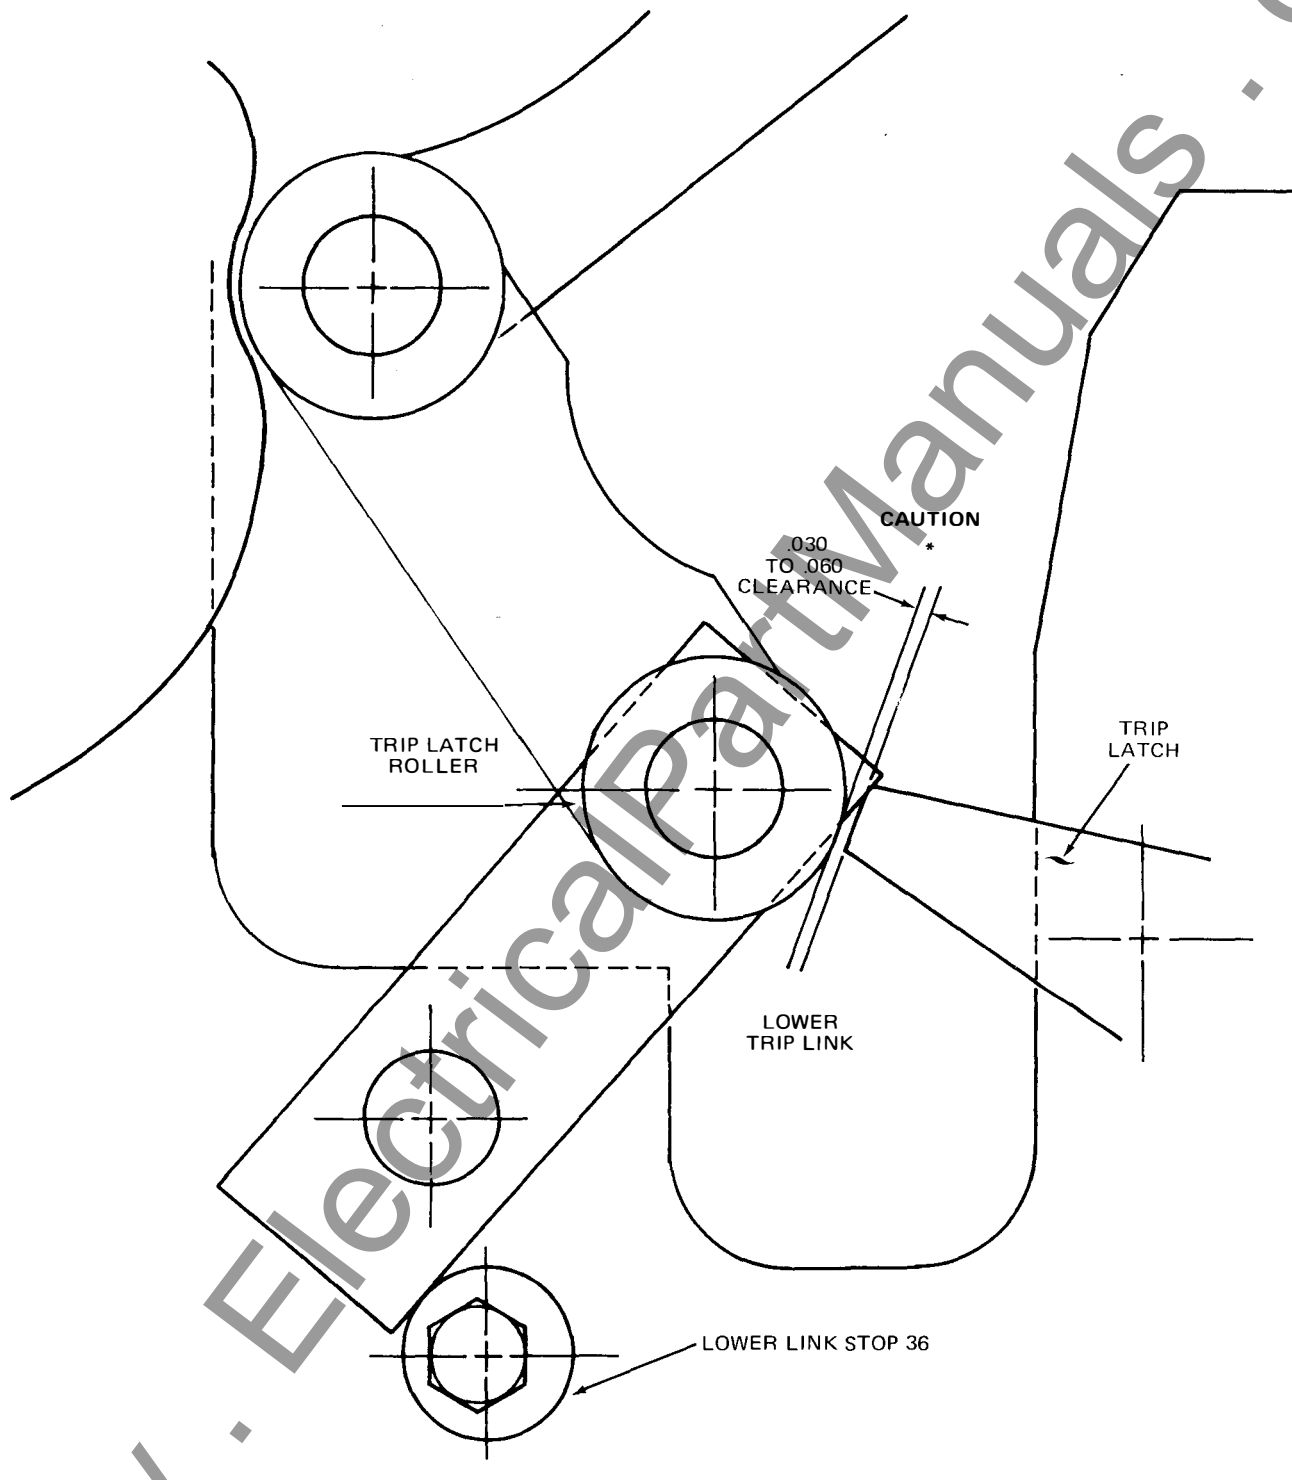

Fig. 13 – Trip Latch Clearance Adjustment
**Trip Latch Clearance Adjustment (Fig. 13) — CAUTION:** this adjustment can only be checked with springs charged and is to be performed after completing the arcing contact touch and main contact penetration adjustments referenced above.
The adjustment is necessary to insure proper clearance between the trip latch and trip latch rollers. The puffer (or snubber) height adjustment (Fig. 13) will accomplish this purpose, and in no way will affect the penetration adjustment.